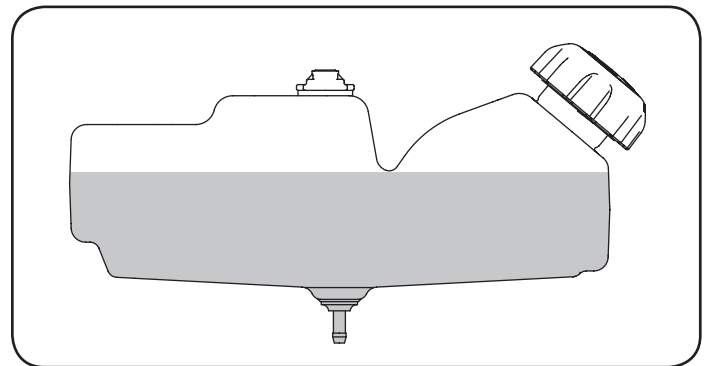

Figure 16
3. Fill tank until fuel reaches 1/2 inch below the bottom of the filler neck to allow space for fuel expansion. Be careful not to overfill. See Figure 16.